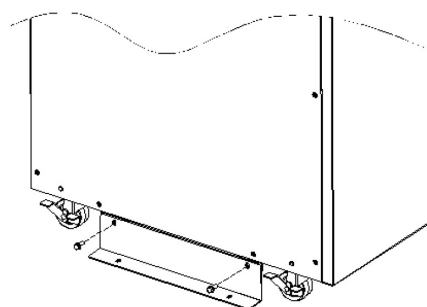
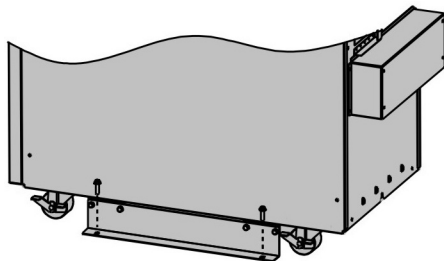

Fig. 8.
Fig. 9.
- ❑ Before downloading the equipment from the pallet, the stabilizer supports have to be removed (see figure 8), otherwise they will make difficult the process and they will be bent when impacting with the wooden ramp, making damages and the own case or cabinet structure of the equipment.
- If it is appropriated and as a preventive measure, the stabilizing supports can be reassembled (see Figure 8), to avoid the dump of the device. Optionally the equipment can be locked, by fixing it to the floor through the holes provided in the same support (see figure 9).